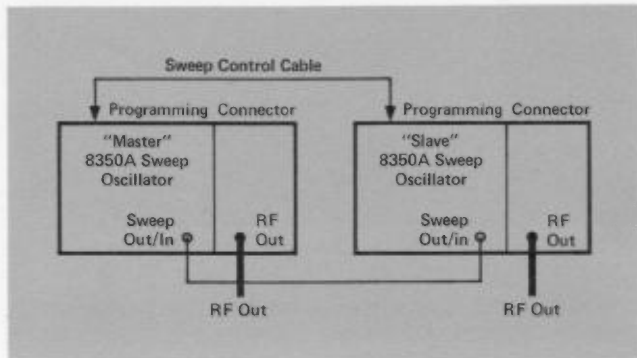

Figure 4. Basic Two-tone System Block Diagram
1. Connect the equipment as shown in Figure 4.²